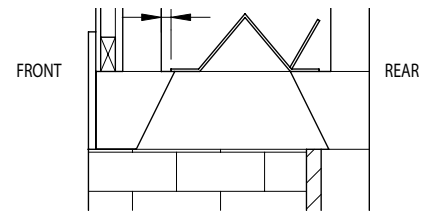

FIGURE 16
Step 7: With the damper beams assembled and mortared together, set the cast iron throat damper on top of the damper plate and over the damper plate opening. The cast iron damper's operating plate should face toward the rear of the fireplace. (Figure 16)
Position the cast iron damper so that its front flange is approximately one inch (1") away from the inside face of the front smoke dome component. (Figure 16)